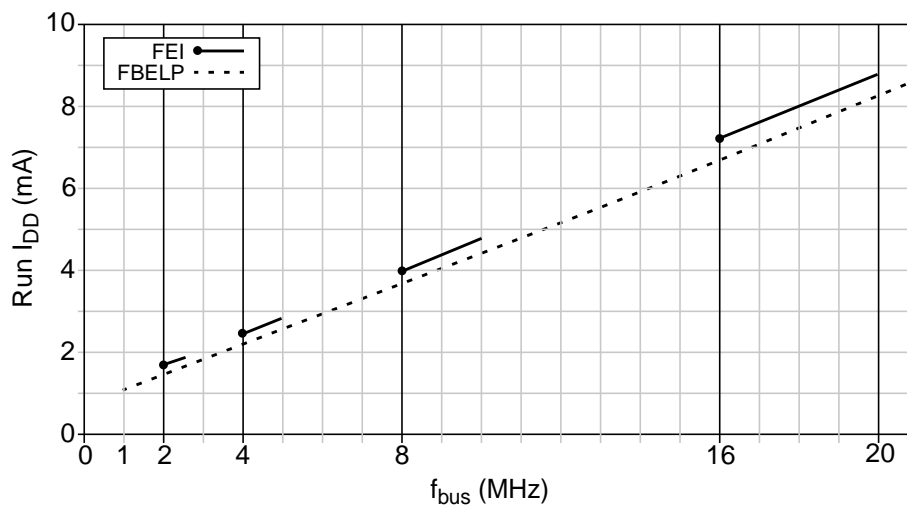
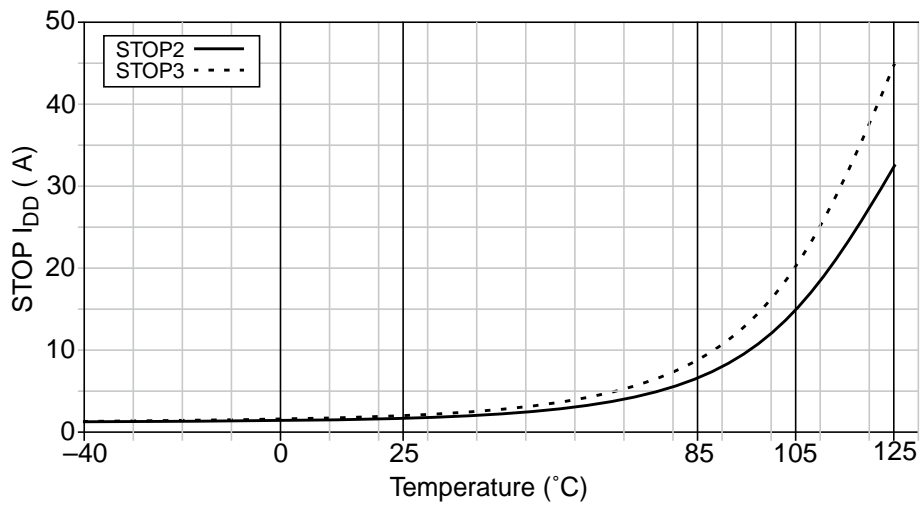

Figure A-5. Typical Run I_{DD} vs. Bus Frequency (V_{DD} = 5V)
Figure A-7. Typical Stop I_{DD} vs. Temperature ($V_{DD} = 5V$)
- ¹ Typical values are based on characterization data at 25°C. See Figure A-5 through Figure A-7 for typical curves across voltage/temperature.